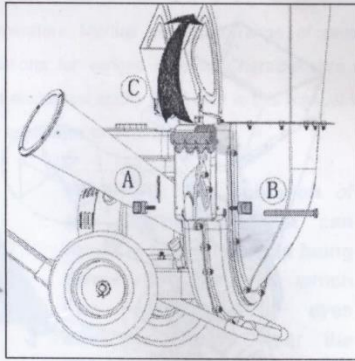

Figure 4-1
2. Squeeze the locking buckle to release the bag's draws trap before loosening it from the chute deflector. See Figure 4-1.
2. a. If attached, remove debris bag. Remove the two wing knobs on either side of the chute deflector and pivot the chute deflector upward. See Figure 4-1.
b. Remove the hairpin clip from the clevis pin which extends through the housing and shredder screen. See Figure 4-1. Remove clevis pin.